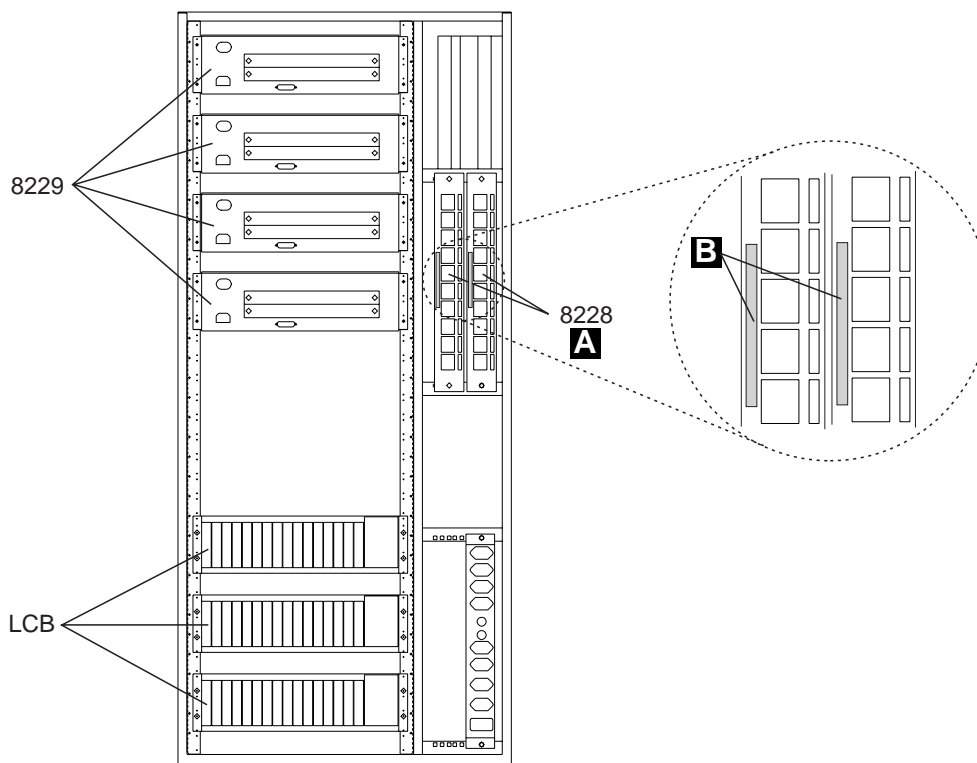

Figure 2-21. Installing Four Ethernet Bridge in the Controller Expansion-B (Rear View)
- h. \_\_\_\_ Refer to Figure 2-21, in this example two 8228s and four Ethernet bridges are installed (maximum configuration). Install vertically a 8228 **A** on the rear side of the controller expansion-B using two screws (PN 1621232) and two captive nuts (PN 58G5766). Using label **B** (PN 782964), identify the 8228s as Ethernet Bridge Access Unit-A and Ethernet Bridge Access Unit-B.